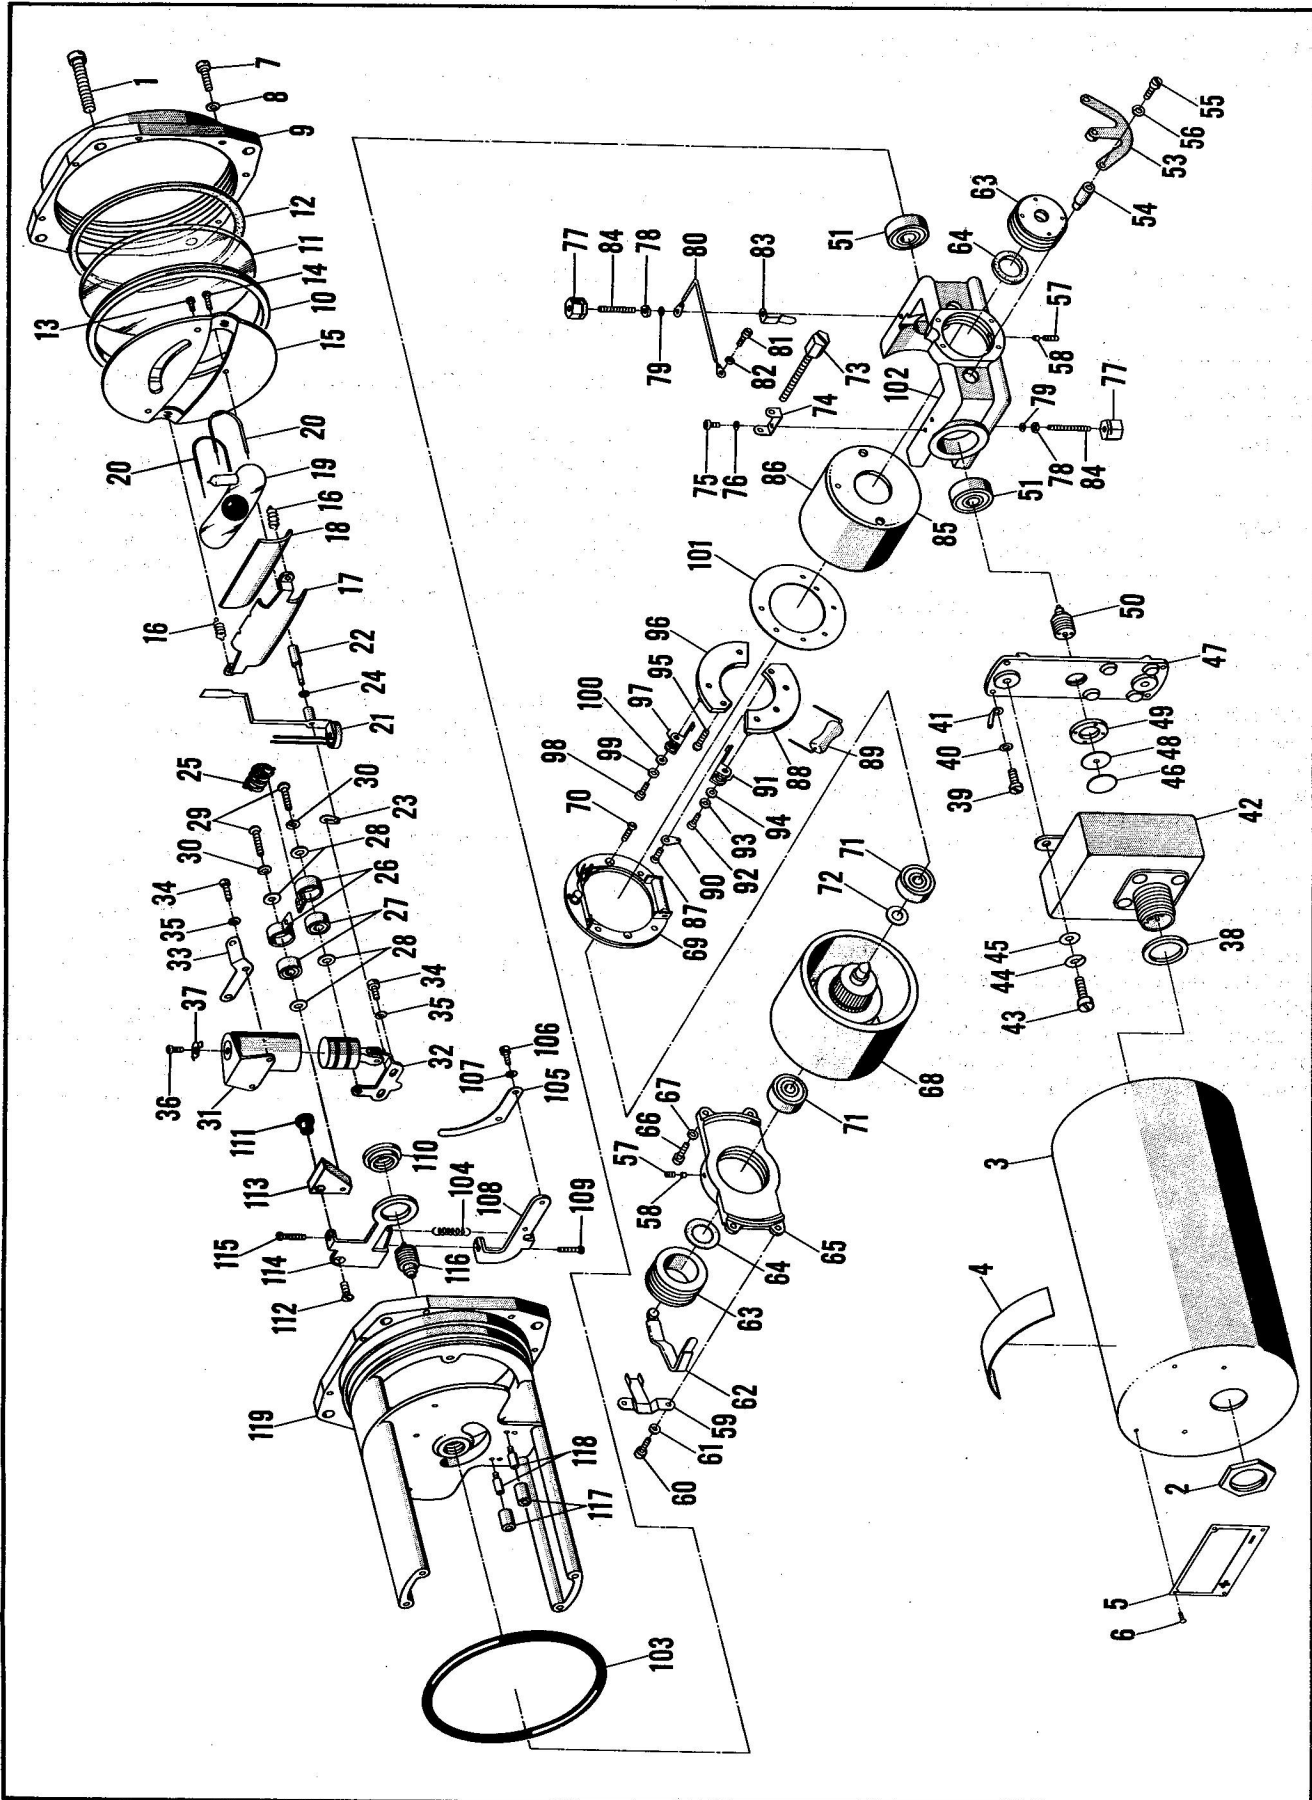

Figure 4-3. Bank and Turn Indicator Assembly, Model B4A-A
DISASSEMBLY. (See figure 4-3.) Same as Model B4 except that filter assembly (42) replaces individual radio noise filtering components used on Model B4 and insulation (46) is used between insulating washer (48) and the filter assembly. Remove and discard spring washer between contact pivot assembly (116) and ball bearing (51), if present.
KEY FOR FIGURE 4-3